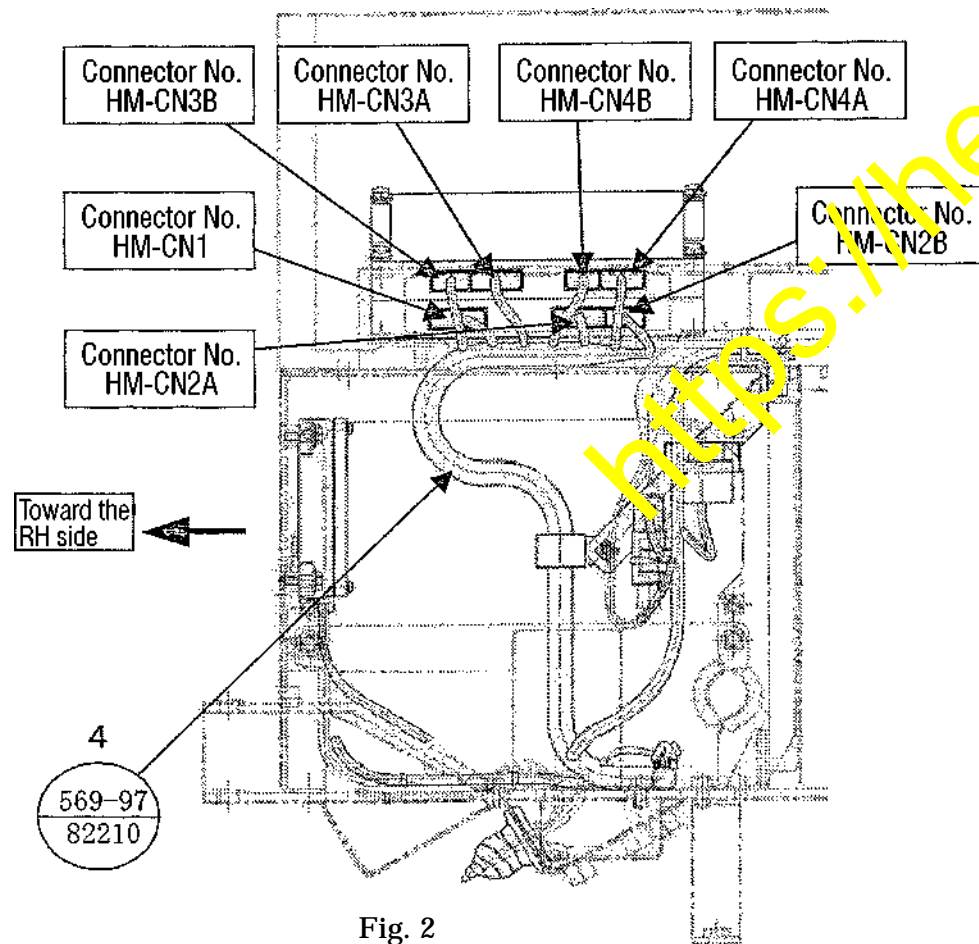

Fig. 2
- ② Disconnecting the harness ((Refer to Fig. 2.)